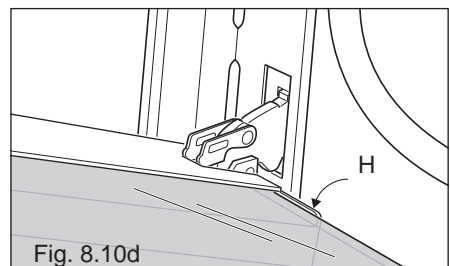

Fig. 8.10d
- Insert the inner pane in the left "E" and right "F" side guides (fig. 8.10c) and gently let it slide up to the retainers "H" (fig. 8.10d).